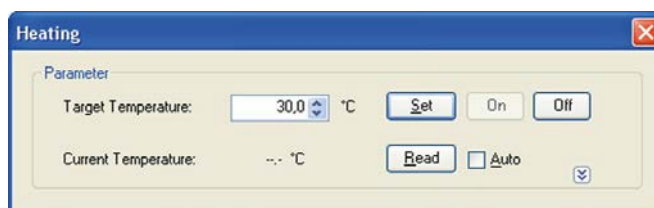

Figure 33
Switch on the Infinite 200 PRO. Start the Tecan i-control software and connect to the instrument. From the **Instrument** tab select "**Heating...**", specify a "**Target Temperature**" within 30°C to 42°C (1), click "**Set**" (2) and then click "**On**" (3) (see Figure 33, below).